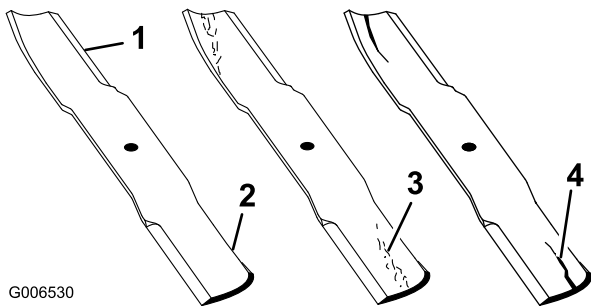

Figure 53
1. Inspect the cutting edges (Figure 53). If the edges are not sharp or have nicks, remove and sharpen the blades. Refer to *Sharpening the Blades*.
2. Inspect the blades, especially the curved area (Figure 53). If you notice any damage, wear, or a slot forming in this area (Figure 53), immediately install a new blade.